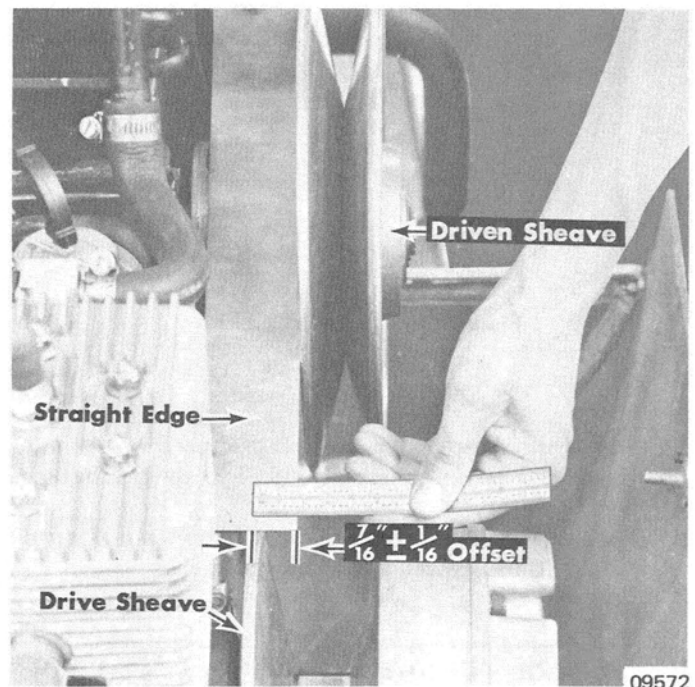

Figure 2. Arctic Drive/Arctic Driven - Alignment
2. Place a straight-edge across inside surfaces of driven sheave and extend over to drive sheave. Measure driven sheave "offset" as shown in Figure 2. Driven sheave is properly aligned when it is "offset"  $7/16"$  (11mm)  $\pm 1/16"$  (1.6mm) from drive sheave.